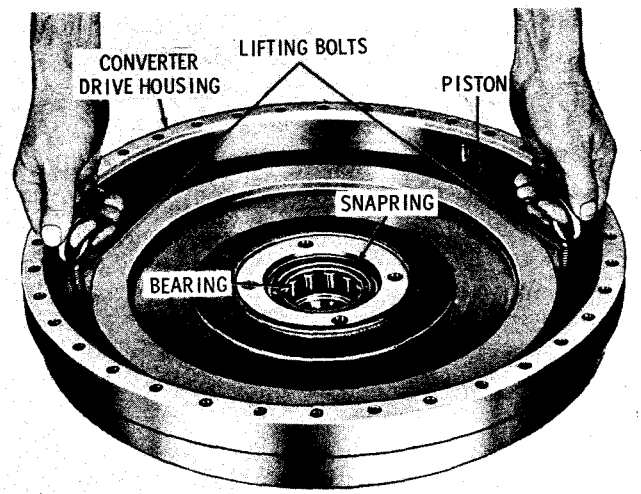

Fig. 5-16. Removing lockup clutch piston
(8) Place the converter drive housing assembly for CLT and CLBT models on a work bench, converter drive hub down. Using lifting bolts, remove the lockup clutch piston from the converter drive housing (fig. 5-16). Remove the snapring and